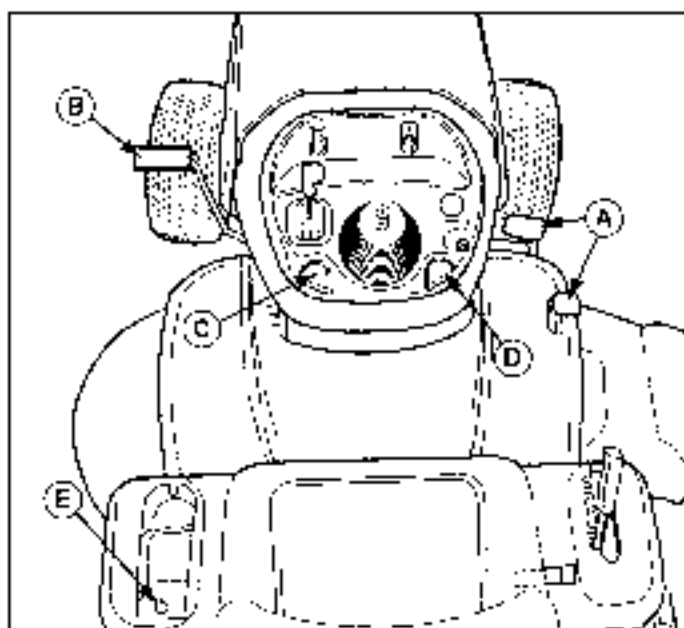

Figure 3. Engaging the Parking Brake
1. Remove the fuel cap (A, Figure 3).
Applying the Parking Brake - See Figure 3. To lock the parking brake, release the ground speed pedals (A), fully depress the brake pedal (B), pull UP on the parking brake knob (C), and then release brake pedal.
Releasing the Parking Brake - See Figure 3. To release the parking brake, depress the brake pedal (B).
1. Pull up on the cruise control knob (D, Figure 3).
2. Depress the forward ground speed pedal (A).
3. Lift up the cruise control knob (D) when desired speed is reached. The cruise control will lock in one of its six locking positions.
1. Depress the brake pedal (B, Figure 3).